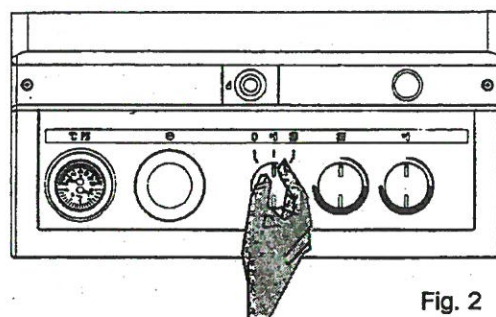

Fig. 2
- 1.1 With the boiler ON/OFF/Mode selector switch (5) turned to  (Fig. 2) the main burner will ignite electronically whenever water is drawn from the tap. (view through sight glass 1)